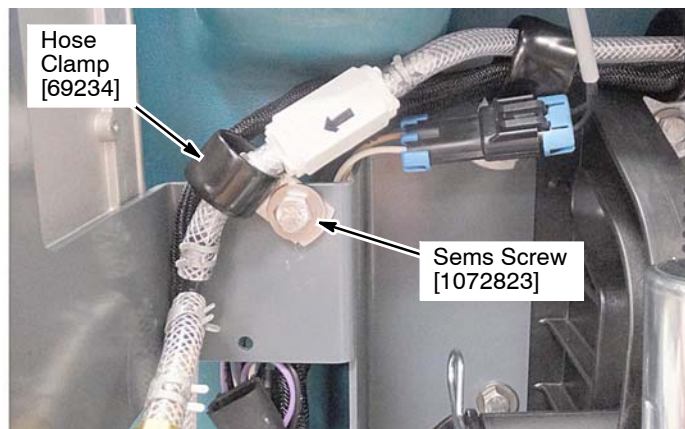

Fig. 23
9. Using hose clamp and sems screw, secure the pump outlet hose assembly to the module bracket as shown (Figure 23).